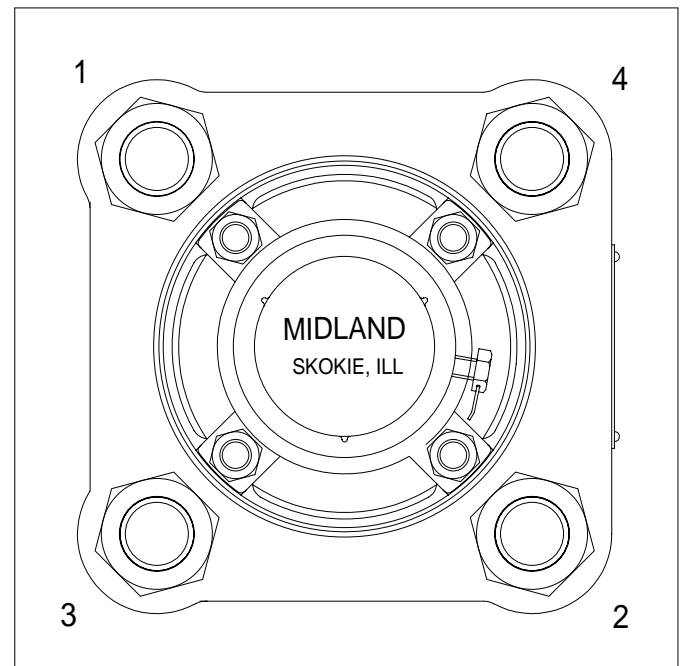

Figure 4 - Mounting Nut Tightening Sequence
1.2.10 Install the nuts and tighten them in 1/3 torque increments in a diagonally alternating sequence to a torque specified by the gasket specifier, as shown in Figure 4.